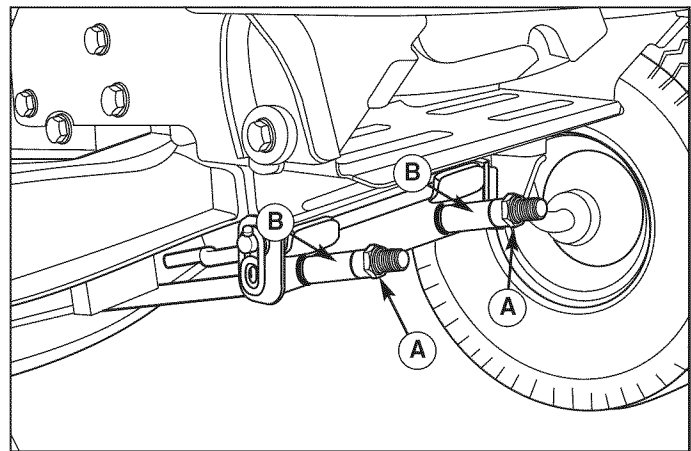

Figure 27. Leveling the Mower Front-to-Back
8. To raise front of mower deck, tighten locknuts (A, Figure 27) against spacers (B). To lower front of mower deck, loosen locknuts (A). Locknuts must be turned evenly on both sides to keep deck level.
9. Re-check the blade measurement then tighten the front locknut (A) against the bracket to secure.